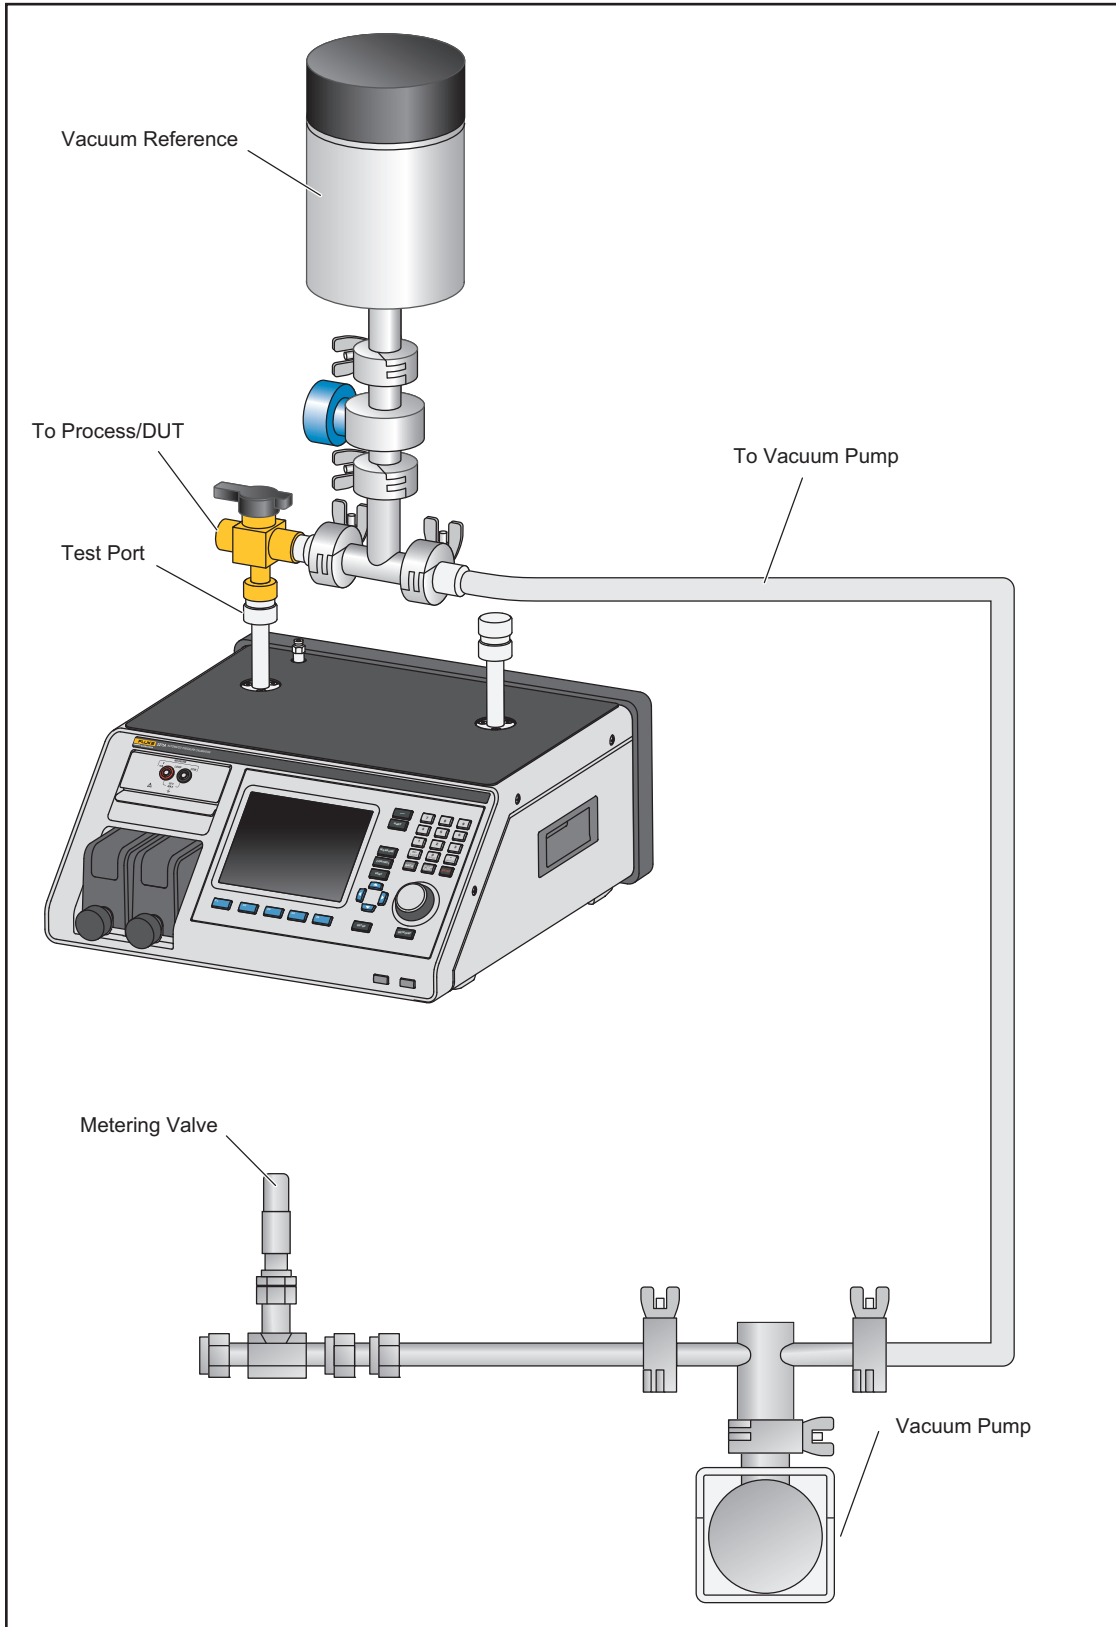

Figure 14. Zero by Vacuum Setup
6. Connect the vacuum sensor, vacuum source, bleed valve, and applicable hardware and tubing to the Test Port of the Product. Figure 14 shows an example setup. Connect the bleed valve as close to the vacuum pump as possible and the reference vacuum sensor as close as possible to the test port. Plug the second test port.
An optional 3-way ball valve can be installed at the test port (Figure 14). This setup keeps the vacuum sensor in its original position with the ability to isolate the vacuum sensor when the vacuum sensor is not used to zero PMMs. When the vacuum sensor is isolated, the test port can be used for other processes.